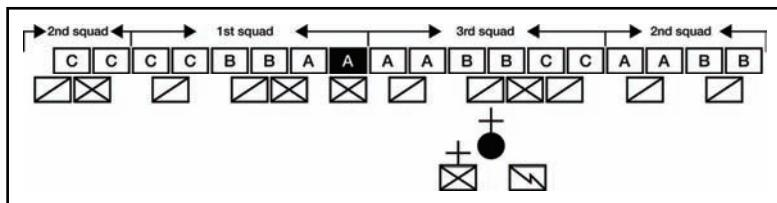

Figure 191-379-5403-1. Platoon line formation
- a. Form the platoon into a platoon line formation with one squad in direct (figure 191-379-5403-1).